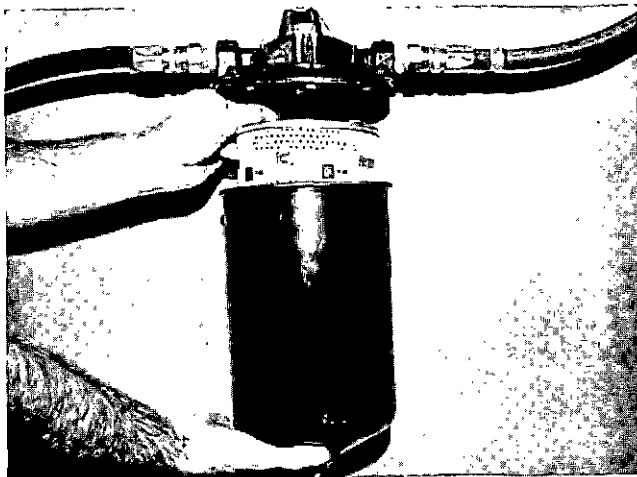

Fig. 2-26 (V11910) Installing replaceable fuel filter element
2. Loosen nut(s) at top of fuel filter(s). Take out dirty element, clean filter case(s) and install new element(s). Fig. 2-26.